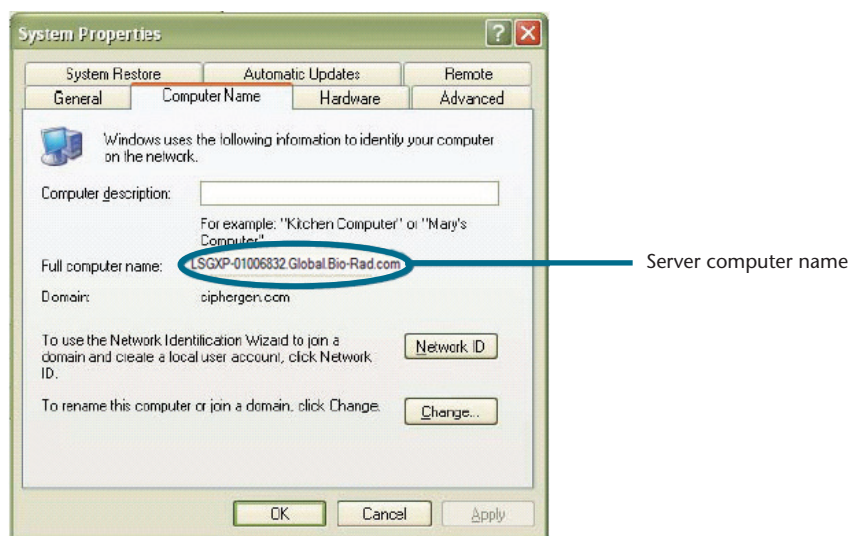

Fig. 10: The System Properties dialog box.
2. To determine the computer name, locate the field called **Full computer name** and copy down the text up to the first decimal point (Fig. 10). Once recorded, you can click **Cancel** to close the dialog box.